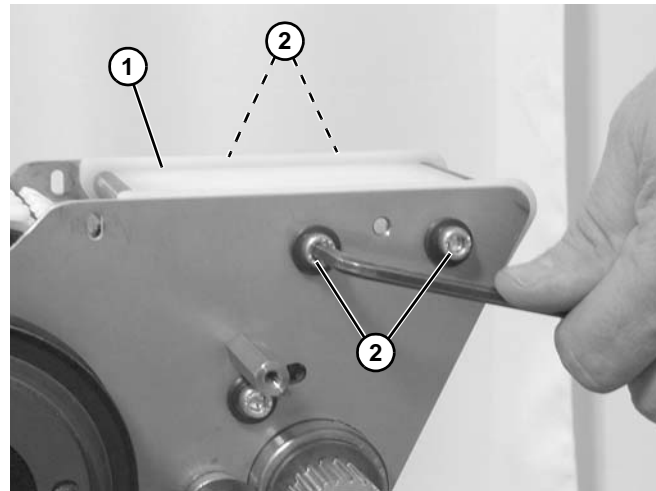

Figure 176
5. Install wear bar assembly (**Figure 176, item 1**) with four socket head screws (**Figure 176, item 2**).